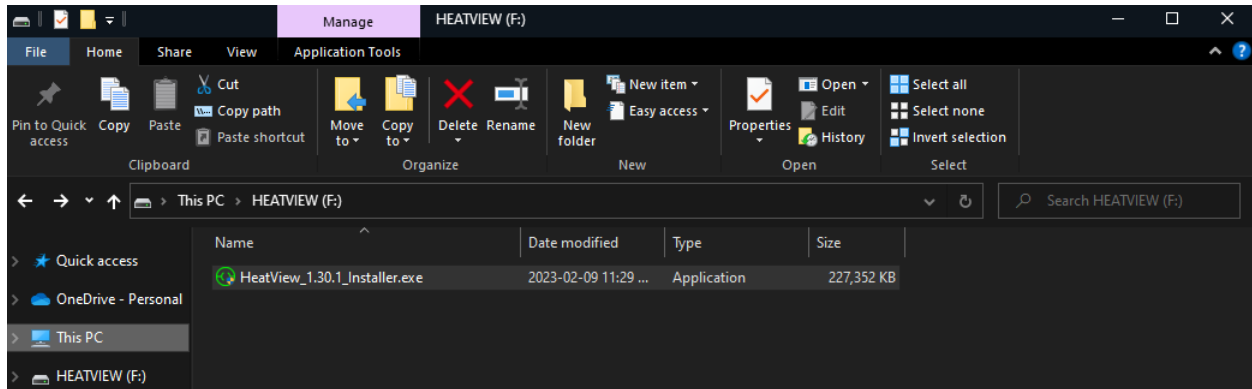

Figure 3: Installation – Locating your installer
1. In 'File Explorer', open the location that contains your "HEAT VIEW_X.X.X_installer.exe" file – either on the installation media provided to you with your purchase, or the folder you selected in the previous step – and double-click the installer to start the process. Refer to Figure 3 below for an example. Version 1.30.1 is shown in this manual as an example, however yours will appear as whichever version you are installing. This file will be in the location you selected when downloading the file.